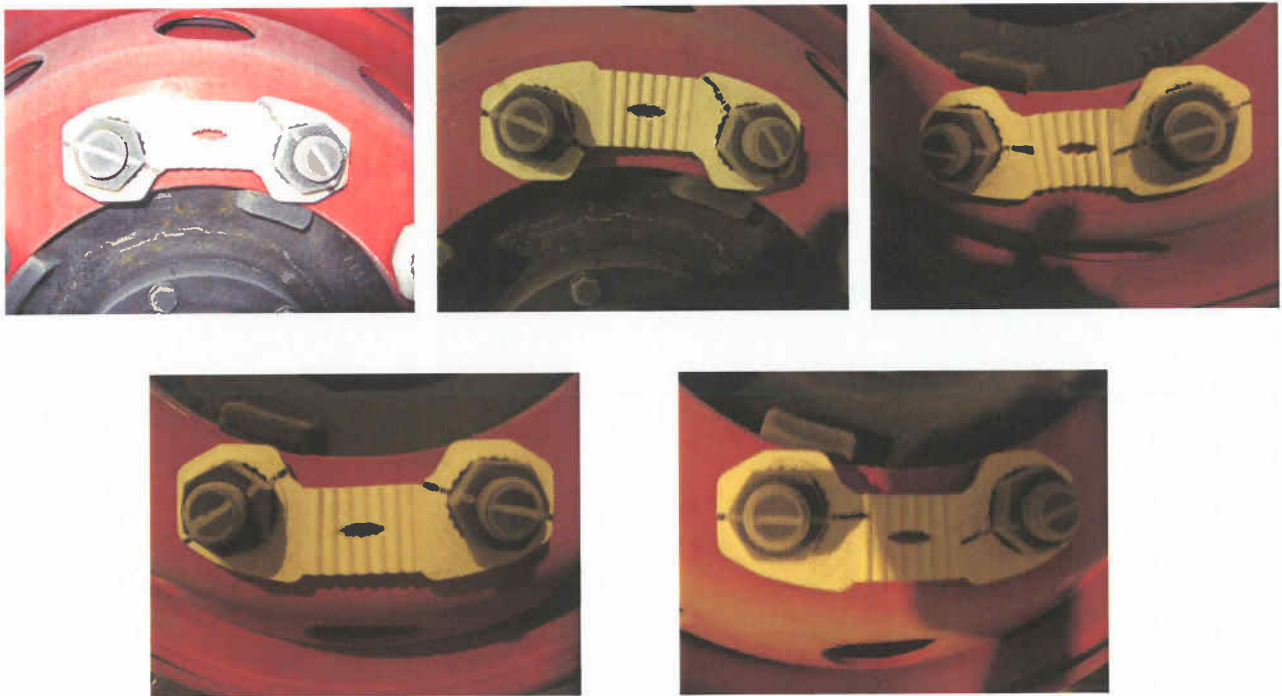

Figure 8A
4. 26" Steel Rim, after vibration testing at -40°C: Figure 7A and Figure 8A,